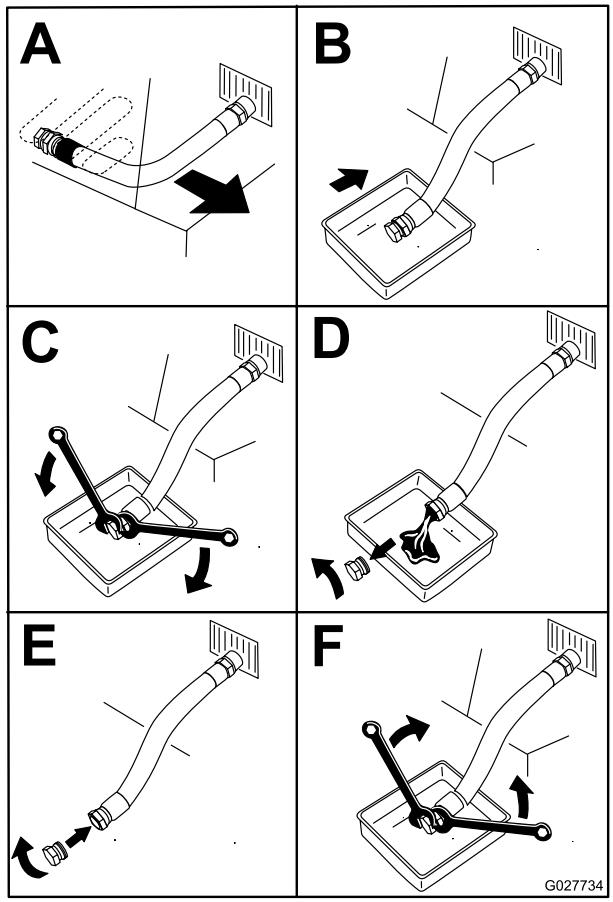

Figure 57
4. Shut off the engine, remove the key, and wait for all moving parts to stop before leaving the operating position (Figure 57).